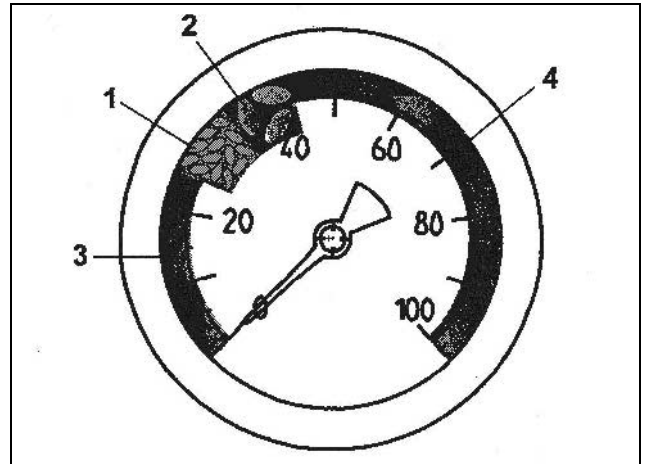

Fig. 92
- 25 and 35 mbar (Fig. 92/1) or
- 35 and 45 (Fig. 92/2) mbar.